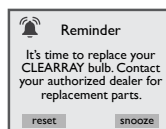

Figure 15.0c
19. CLEARRAY Replacement Reminder: This message will appear when the CLEARRAY bulb reminder time has expired (Figure 15.0c). The CLEARRAY bulb must be replaced.